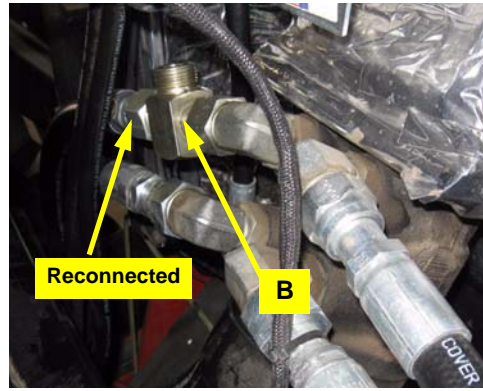

Figure 4: Run-tee installed in tank port of orbital, machine's tank hose reconnected
4. Install run-tee **B** in the tank port of the orbital (top right port) and connect the machine's tank line to the open "T" end of run-tee **B** (Figure 4).